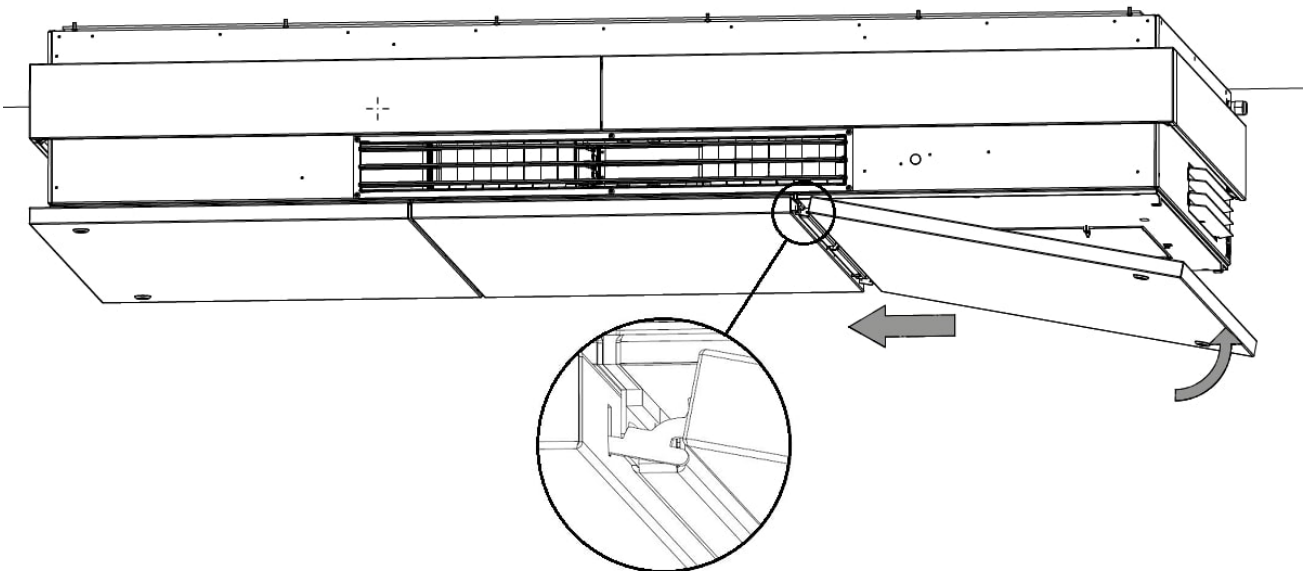

Figure 56: Hinge the right-hand service cover
5. Lift the right-hand service cover and hinge it onto the middle plate, then lock it, see Figure 56 and Figure 57.